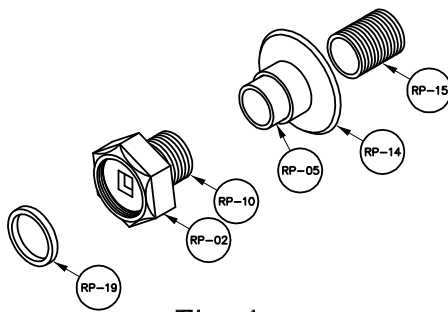

Fig. 4
3. Remove RP-02, RP-10, and RP-19 from the hot and cold sides of the valve and assemble as shown in Fig. 4 and place onto supply pipe for hot and cold water.
4. Once Step 3 is complete attach the valve to RP-02. **NOTE:** If RP-19 is not placed as shown in Fig. 4 the connection will leak.